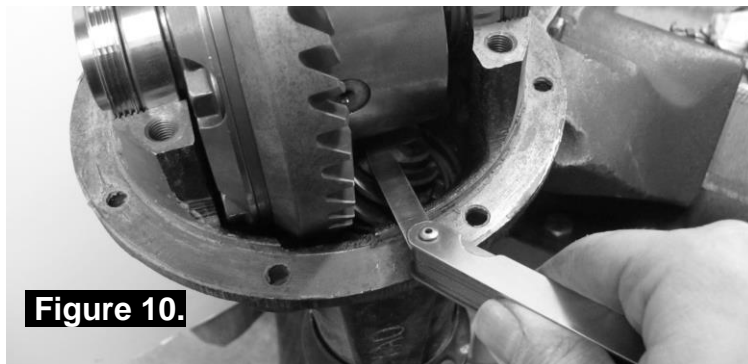

Figure 10.
- ☐ Insert a feeler gauge between the case body and the pinion gear when the Air Locker is fully seated onto the housing (Figure 10.).